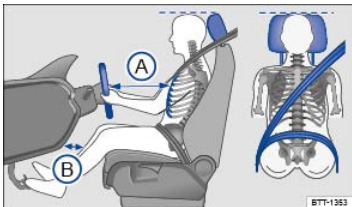

Fig. 24 Proper safety belt positioning and head restraint adjustment. The driver should never sit closer than 10 inches (25 cm) from the steering wheel.
- Adjust head restraints so that the upper edge of the head restraint is at least at eye level or higher. Position the back of your head as close as possible to the head restraint ⇒ *Fig. 24* (dotted line).